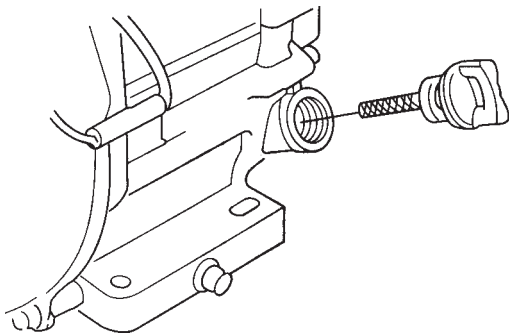

Figure 5. Engine Oil Dipstick (Removal)
2. Remove the filler dipstick from the engine oil filler hole (Figure 5) and wipe clean.